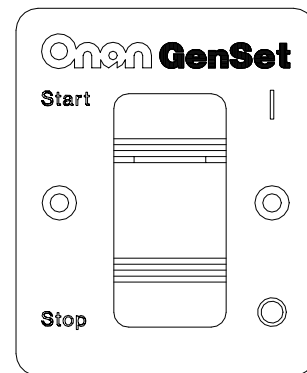

FIGURE 4. REMOTE CONTROL
- Remote start/stop switch with indicator lamp only (Figure 4).